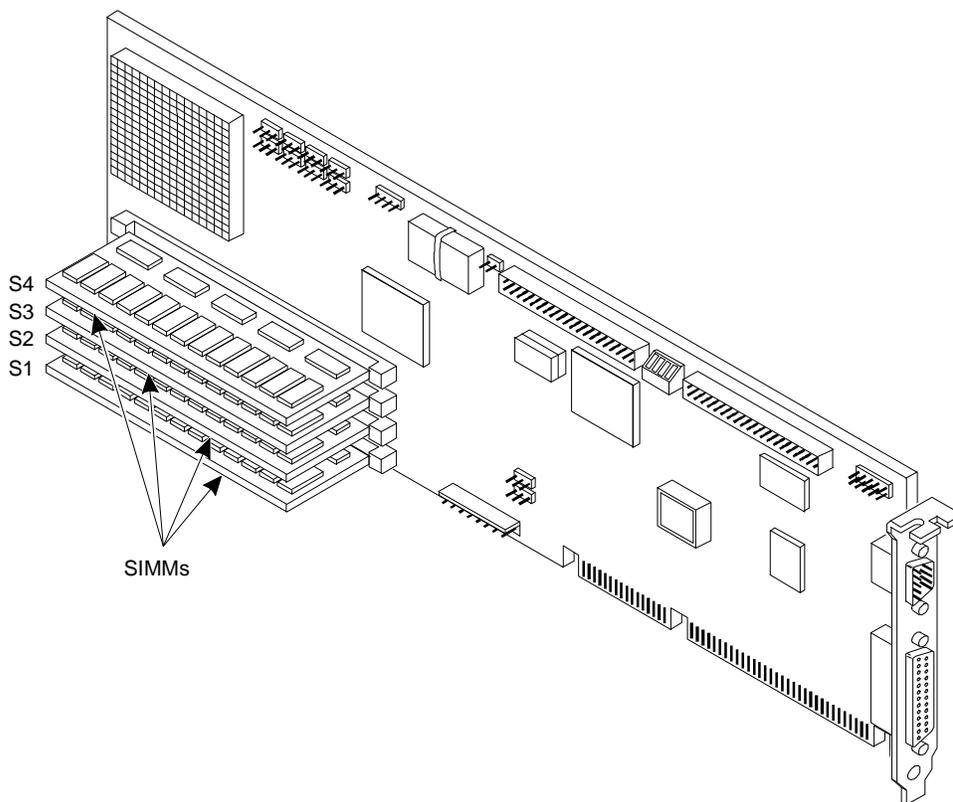

Figure 10-1. SIMM Sockets on the 486 CPU Circuit Card
The MAP/100 486 CPU circuit card supports up to four 16-Mbyte SIMMs. You must test each one individually if poor system performance leads you to suspect memory damage. Figure 10-1 shows the location of the SIMMs on the 486 CPU circuit card.
2. Remove the *top* SIMM from the card (this is labeled "S4" in Figure 10-1).